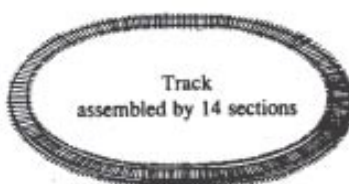
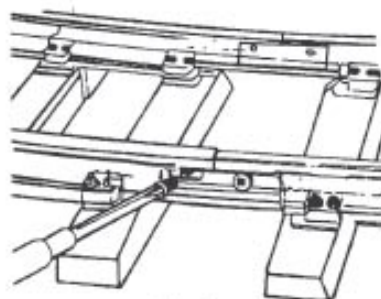

Fig. 2
Fig. 3
2. Join all twelve (12) curved track sections together (Fig. 2) to form a circle. If desired, each may be permanently attached to the adjoining section by inserting the small locking screw through the slot in the rail joiner into the hole in the rail and tightened (Fig. 3). These screws are stored underneath, in the hollow of one of the ties and encased in paraffin. If you do not wish to permanently join the track at this time, do not use the locking screws, but secure the sections together by using the provided plastic Tie Wraps. These Tie Wraps are inserted through the slot in the last tie and tightened. Please note that